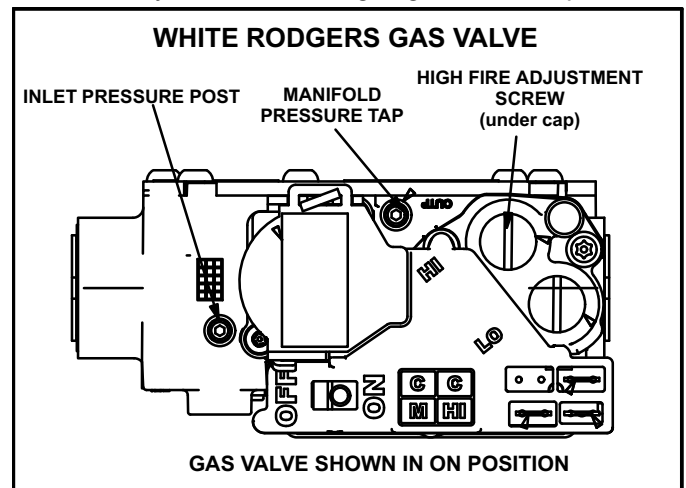
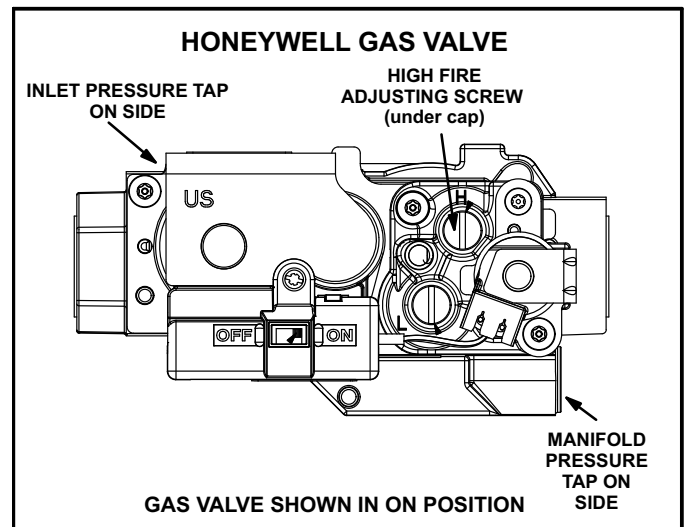

FIGURE 26
FIGURE 27
Gas Valve Operation (Figures 26 and 27)
- 6 - Move switch on gas valve to **OFF**. Do not force. See figure 26 or 27.
- 8 - Move switch on gas valve to **ON**. Do not force. See figure 26 or 27.
- 4 - Move switch on gas valve to **OF**. Do not force. See figure 26 or 27.
An inlet post located on the gas valve provides access to the supply pressure. See figure 27. Back out the 3/32 hex screw one turn, connect a piece of 5/16 tubing and connect to a manometer to measure supply pressure. See table 24 for supply line pressure.
- 1 - Connect test gauge to manifold pressure post (figure 26) or tap (figure 27) on gas valve.
- 4 - If necessary, make adjustments. Figures 26 and 27 show location of high fire adjustment screw.